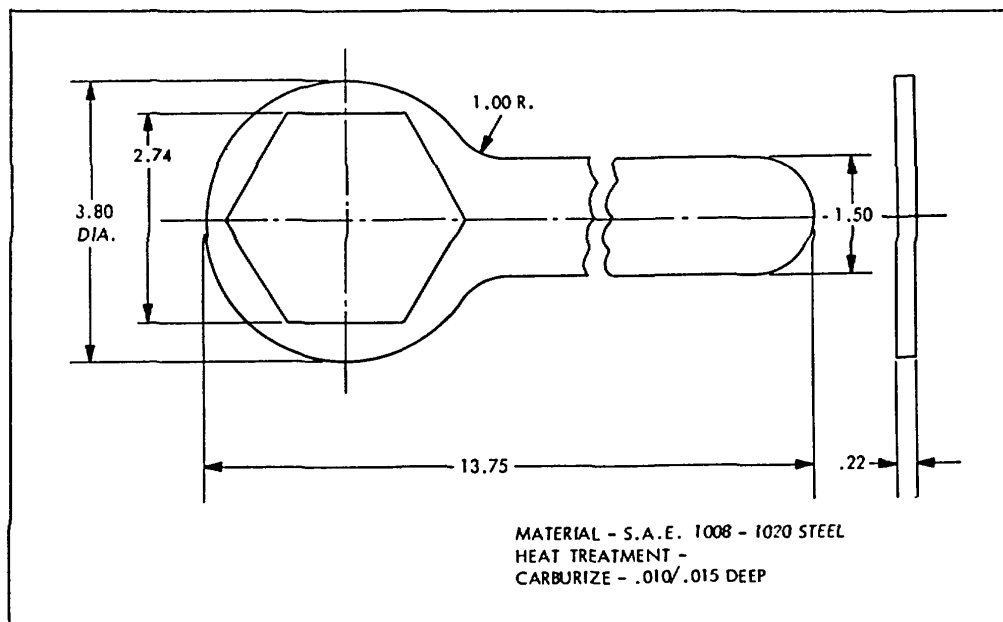

Figure 6-10. Steering Gear Adjuster Plug Locknut Wrench Details
1. Loosen adjuster plug locknut (49, figure 4-32) with adjuster plug locknut wrench (figure 6-10) or equal. Make wrench locally, if necessary, using data on figure 6-10.